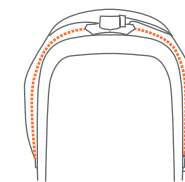

Fig. 6a
- 6) • Make sure the seat fabric is properly attached to the seat support bar. If the seat fabric is unzipped, wrap the seat fabric around the seat support bar (Fig. 6a) and zip the fabric closed.